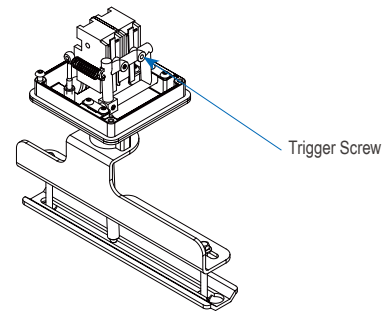

Fig. 9
1. False signal: take off the cover, adjust the trigger screw (see Fig. 9), then fix it with dry glue.